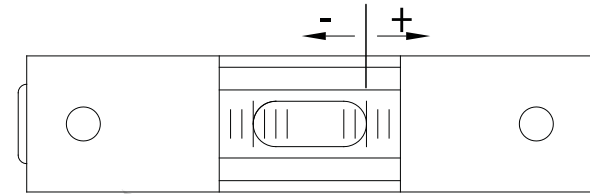
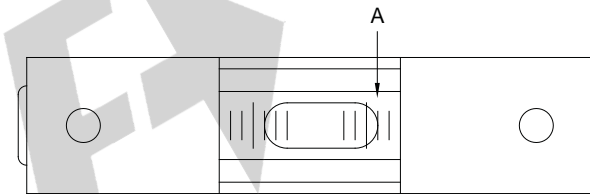
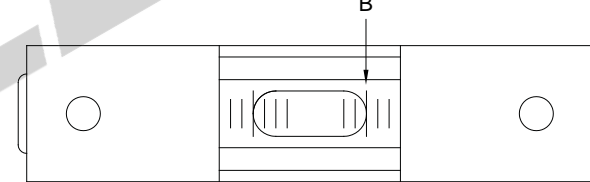

Fig.2
Fig.3
Fig.4
3. In order to get accurate reading, rotate 180° in measurement: the left scale is negative (Fig.2). Not until the bubble is steady(about 40s), do get the reading A(Fig.3). Rotate block level 180° and put it at the same position, get the reading B(Fig.4) at the same edge. The result is (A+B)/2.